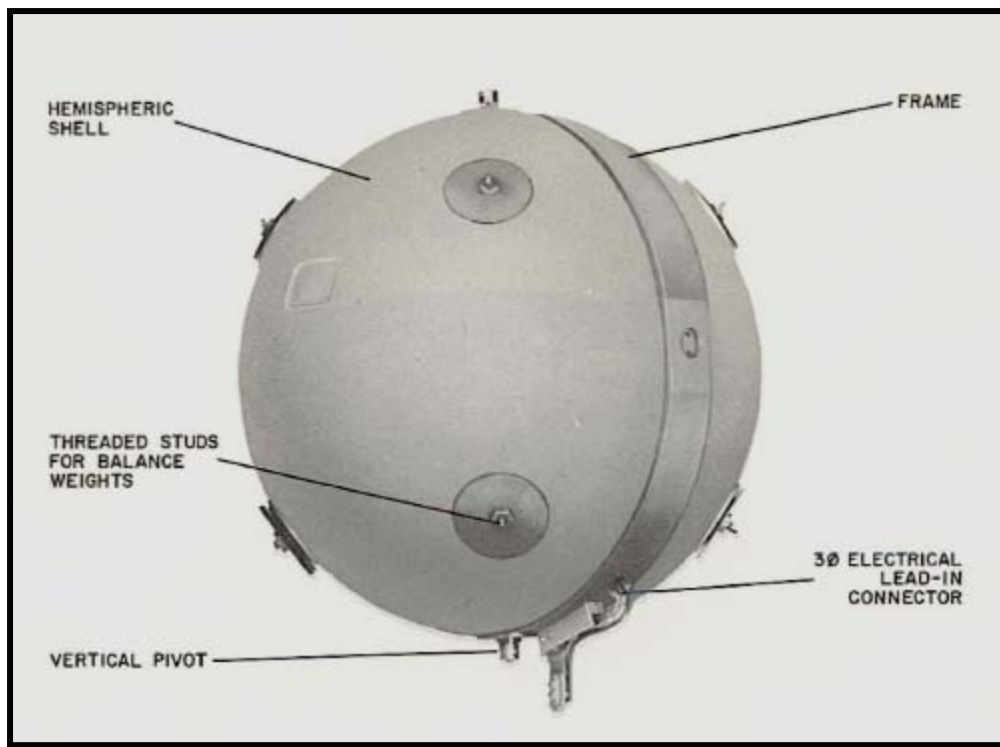

Figure 4-29.— Gyrosphere.
**Gyrosphere** - The gyrosphere, shown in figure 4-29, is the north seeking part of the gyrocompass. It derives its name from the fact that the gyro wheel is mounted within a spherical enclosure. The sphere is 6.5 inches in diameter; at running temperature, the specific gravity of the sphere is the same as that of the fluid in which it is immersed. Because the sphere is in neutral buoyancy, it exerts no load on the vertical bearings which, therefore, serve only as guides for the sphere. Flotation of the gyrosphere in this manner not only reduces pivot friction, but serves to protect the gyrosphere pivots from destructive shocks. The sphere has been evacuated and partially filled with helium gas. This gas serves to transfer the heat generated by the gyrosphere motor windings to the surface of the sphere.